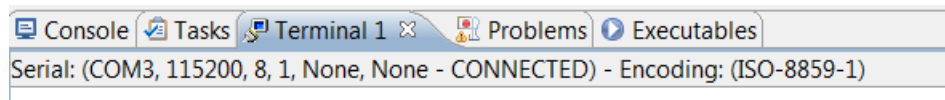

Figure 37: Terminal Connection Verification
11. Verify the **Terminal** connection by checking the status at the top of the tab (FIGURE 37).